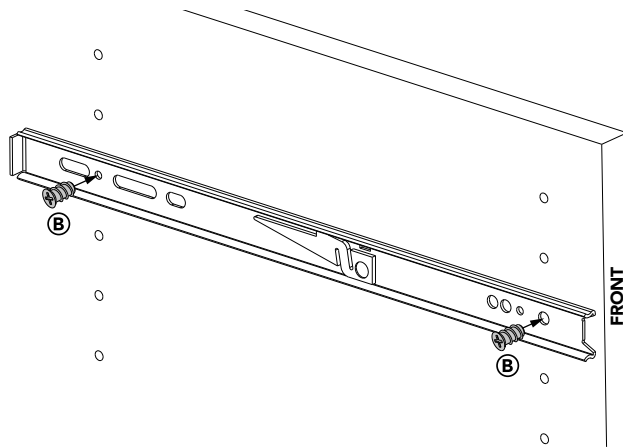

Fig. 2
Level the slide, and pre-drill the back location. Use one #8 x 3/4" Pan Head Screw (C) to install the unit (See Fig. 2).